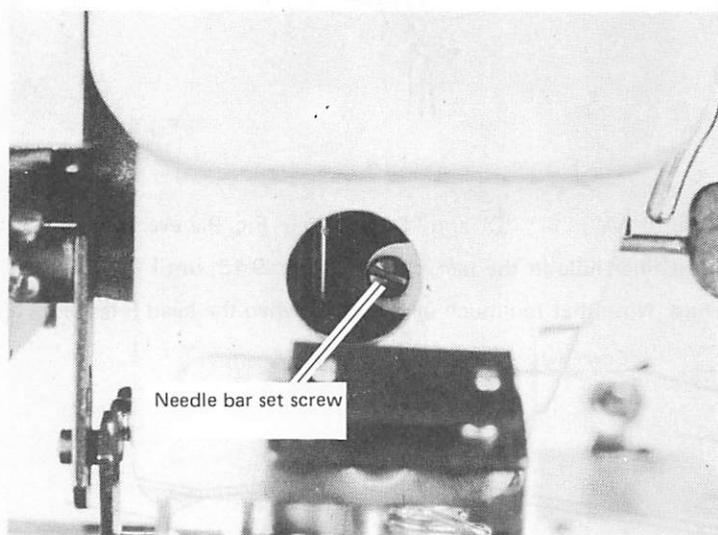

Fig. 10.2
- (1) Remove the rubber plug from the face plate, as shown in Fig. 10.2, and loosen the needle bar set screw to adjust height of needle bar.